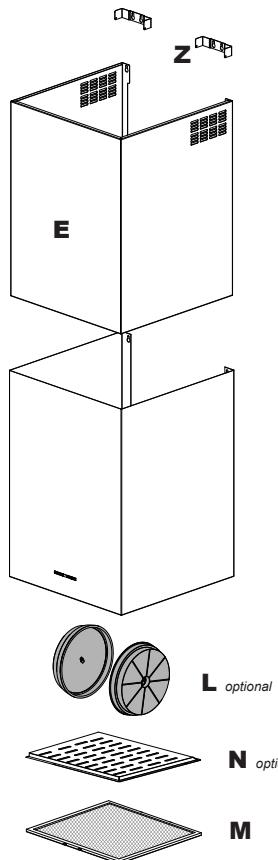

Fig. 2
- Drill the holes **A-B-C** for wall-fixing according to indications quoted in (Fig.2). Make the holes that correspond with the centre of the hob and so that the lower part of the hood, which is to be assembled afterwards, is arranged at least 75 cm from the cook top (Fig.9).